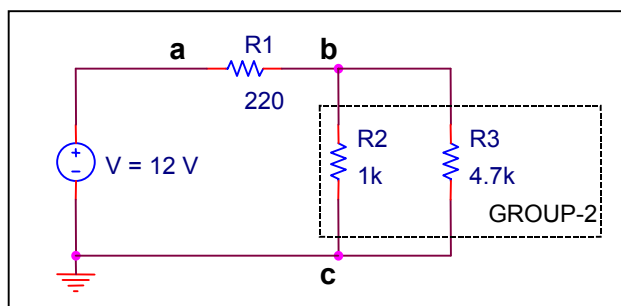

Figure 1.12 Resistor circuit diagram
3. **[2 MARKS]** Calculate by hand the equivalent resistance of Group-2 (R2||R3) shown in Figure 1.12 in section 1 of the Lab Measurements Sheet. Record the calculated value in the column labeled “Theoretical R Values” in Table 1.1 of the Lab Measurements Sheet. Show your calculations.
1. Construct the circuit of Figure 1.12 on your breadboard. Try to layout the actual circuit as close as possible to the same placement as appears on the schematic diagram.
- 3.1 Measure the resistance of resistor R1 and Group-2 (R2||R3) as shown in Figure 1.12 using the digital meter and the following procedure:
- Connect the circuit of Figure 1.12 and turn the power supply ON.
0	Circuit of Figure 1.12 connected correctly.